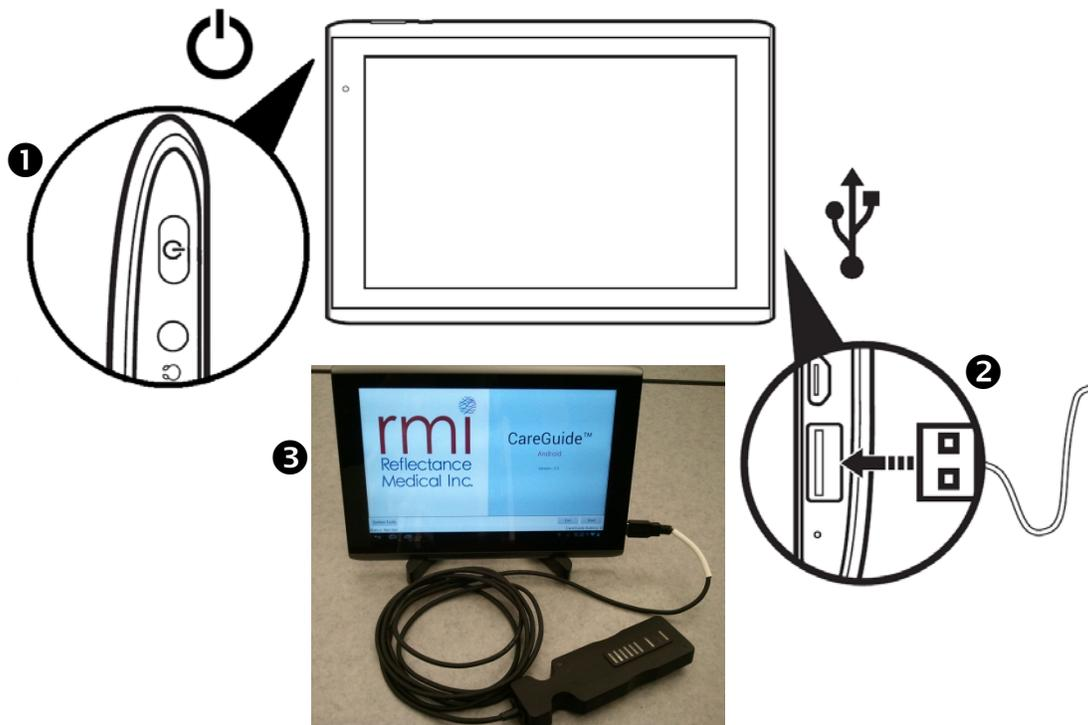

Figure 2. Display Power Button and USB port, Connected to Sensor for Use
- 1 Power on the Display by holding down the power button for ~6 seconds (Figure 2 ❶).
- 2 Connect the Sensor cable to the Display USB port (Figure 2 ❷) to ready the system for use (Figure 2 ❸).